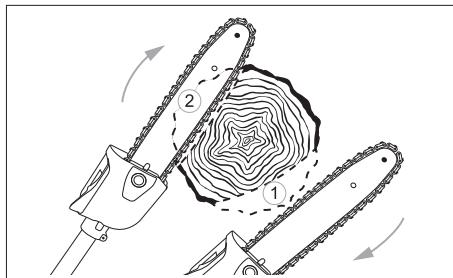

fig. 20
To avoid rupture of the bark and pinching of the tire when trimming thick branches, always start by making a lightweight cut (1) on the underside. To do this, use a cutting edge and pull it tangentially through the bottom of the branch. Then make a cross section. Facilitated incision (fig. 20).
If the branch diameter is more than 10 cm, undercut firstly, (3) and cross section in the distance (A) about 25 cm of total cutting. Then cut to the end (4). Flat cutting of thick branches (fig. 20).